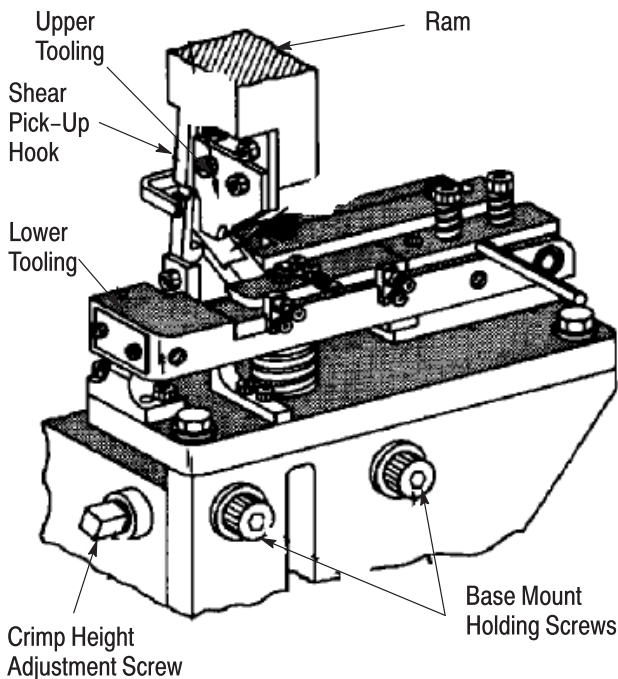

Figure 3
2. Loosen the two base mount holding screws and turn the crimp height adjustment screw "down" until the base mount is at its lowest point. See Figure 3.
4. Pull the ram toward you and place the shear pick up hook under the shear blade. Refer to Figure 3.
3. Loosen the two base mount holding screws. Refer to Figure 3.